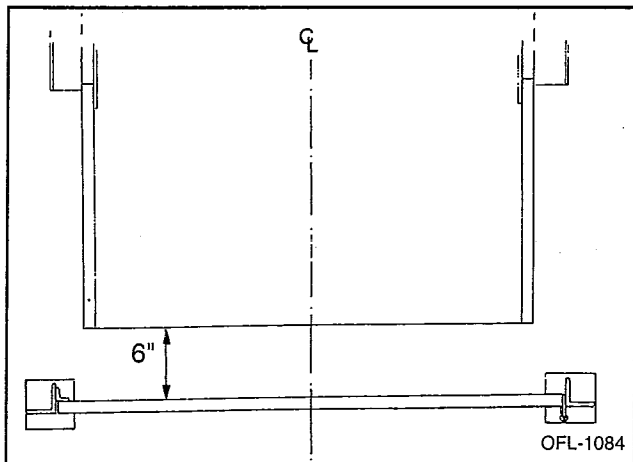

Figure 4
- The ideal position of the gate is 6" from inside of gate panels to carriage. However, the gate can be located anywhere within a range of 4" minimum from inside of gate panel to carriage and a maximum of 6" from inside of gate panels to carriage. See Figure 4.